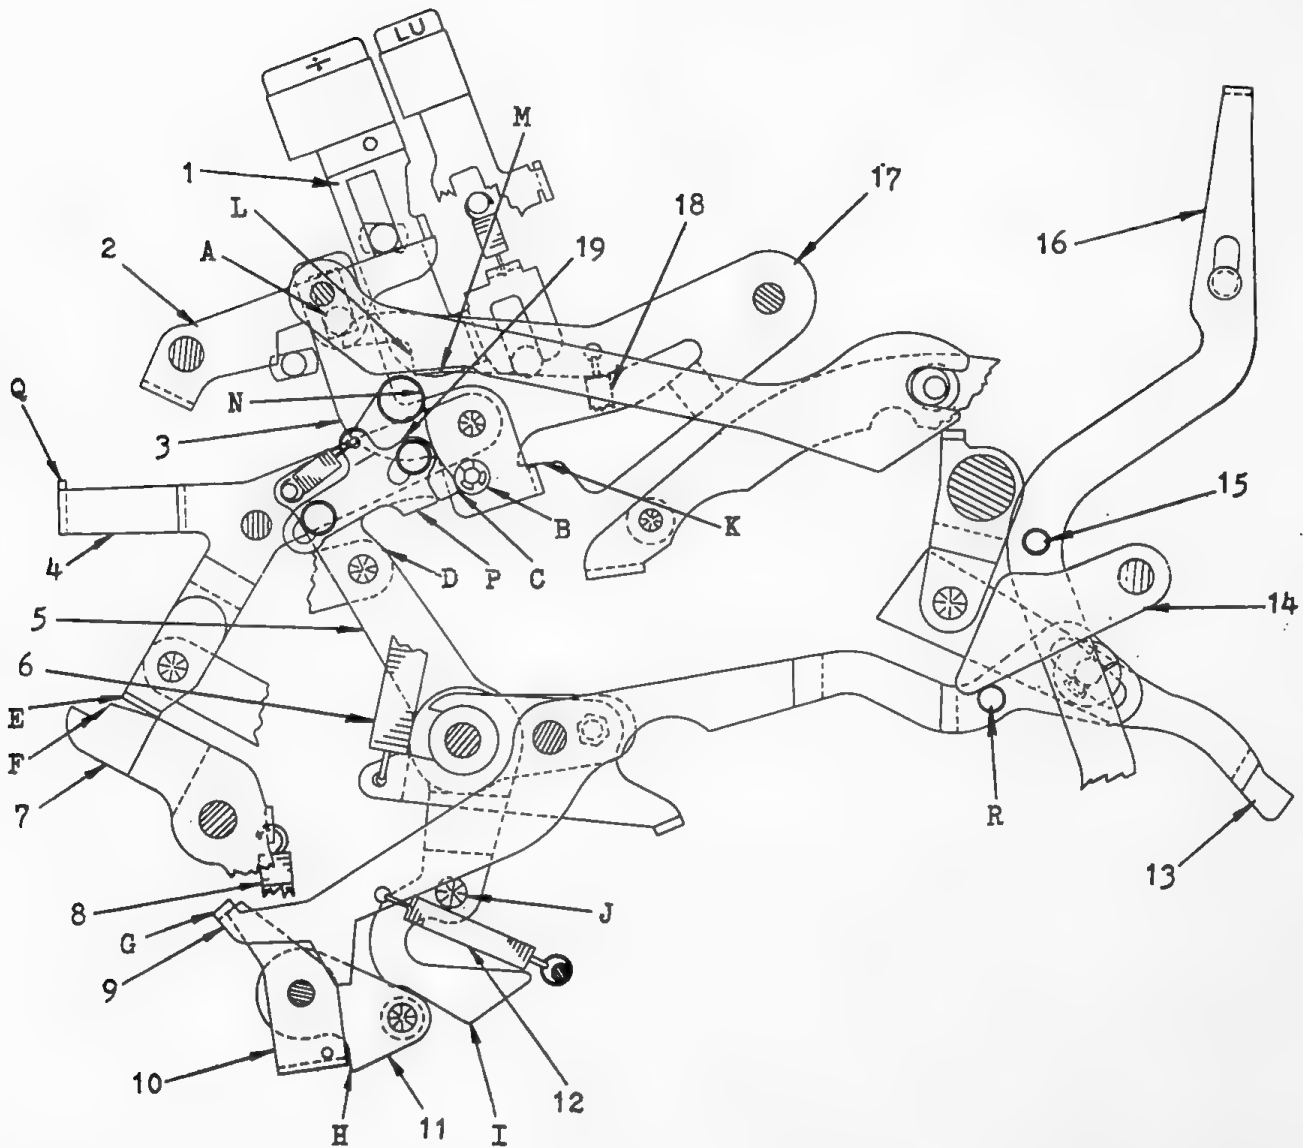

FIG. 1
(Fig. 1). In this "Line-Up Block" position roller (B) on Key Stem (3) has moved down just far enough for tip (C) of Lever (5) to almost pass over the top of roller (B). Lever (5) is thus exerting clockwise force on Lever (4).